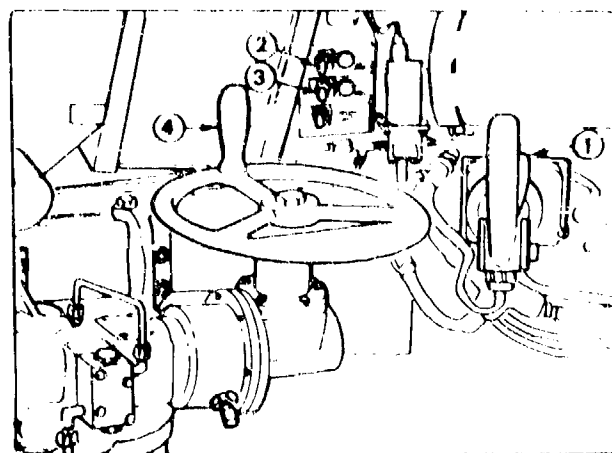

Figure 7-15. Elevating and traversing controls
(1) *Cab traverse lock.* The cab traverse (fig 7-15①) is located to the right of the gunner's control handle. A two-position lock, it locks the cab in place and relieves stress on the traversing mechanism.
(2) *Manual-power selection lever.* On the M109A1/A2/A3, the selector switch is on the gunner's selector switch box (fig 7-15②).
(3) *Hydraulic motor.* The hydraulic motor is located to the left of the manual traversing handwheel (fig 7-15③).
(4) The M109A1/A2/A3 has a no-back device built into the hydraulic motor that acts as a brake.
(5) *Manual traversing handwheel.* The manual traversing handwheel, located on the left of the gunner's power traverse control, enables the gunner to traverse manually (fig 7-15④).
(6) The handwheel moves the tube 10 mils in traverse per turn.
a. *Elevation selector switch.* The elevation selector switch (fig 7-15④), located on the gunner's selector box, allows the gunner to choose whether he or the assistant gunner will elevate the weapon.